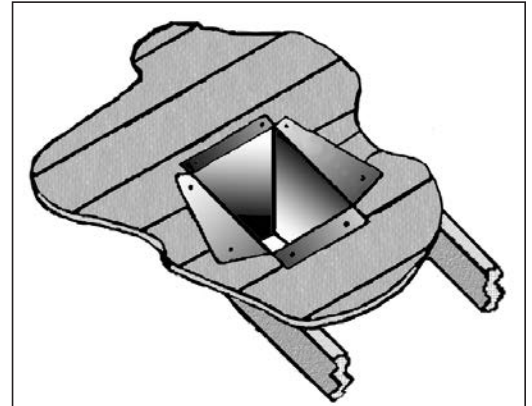

Figure 40: Cathedral Ceiling Support Box Installation.
- Using tin snips, cut the "Support Box" from the top corners down to the roof line, and fold the resulting flaps over the roof sheathing (Figure 40). Before nailing it in to the roof, run a bead of non-hardening mastic around the top edges of the "Support Box", to make a seal between the box and the roof. Clean out any combustible material from the inside of the "Support Box".